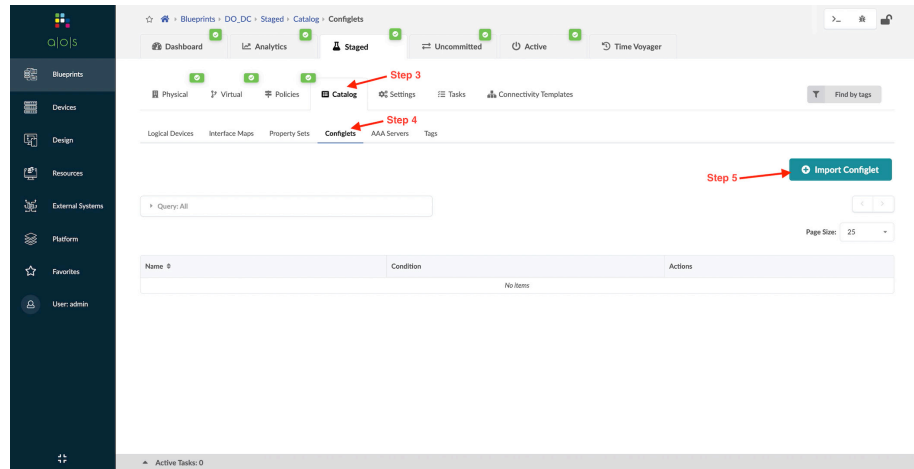

Figure 7.5
Step 3: Go to Staging > Catalog. See Figure 7.5.